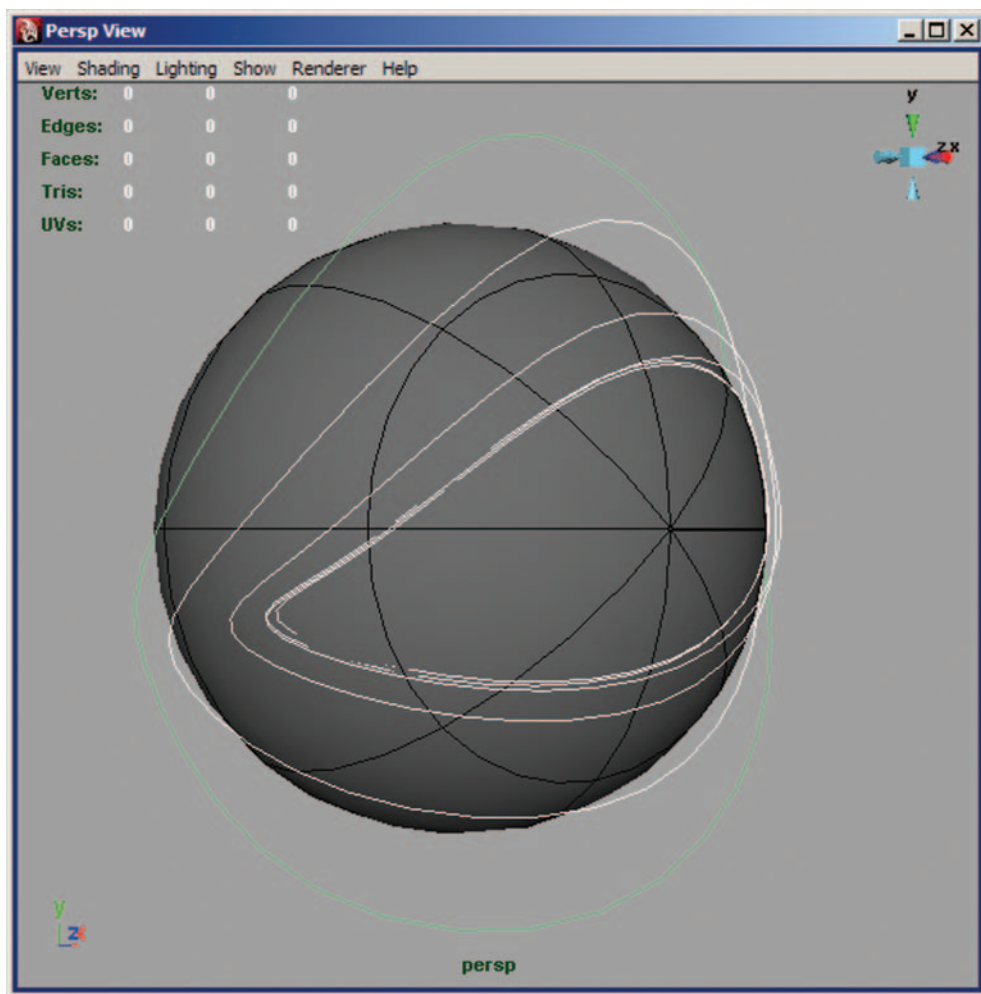

FIGURE 2-35 Final curve placement around the eye.
12. Duplicate eyeCurve5 and name it eyeCurve6. Scale this up and continue shaping the curve. Your curves should be placed similar to Figure 2-35.